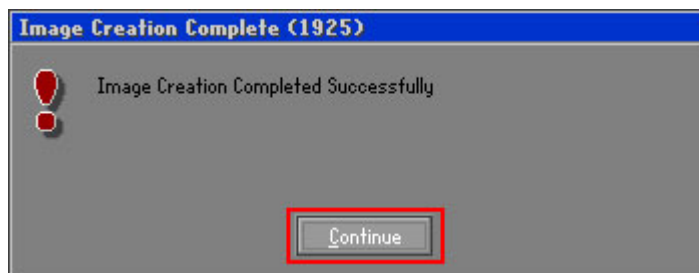

Figure B-20: Image Creation Complete
**Step 11:** When the image creation completes, a screen prompts as shown in Figure B-20.